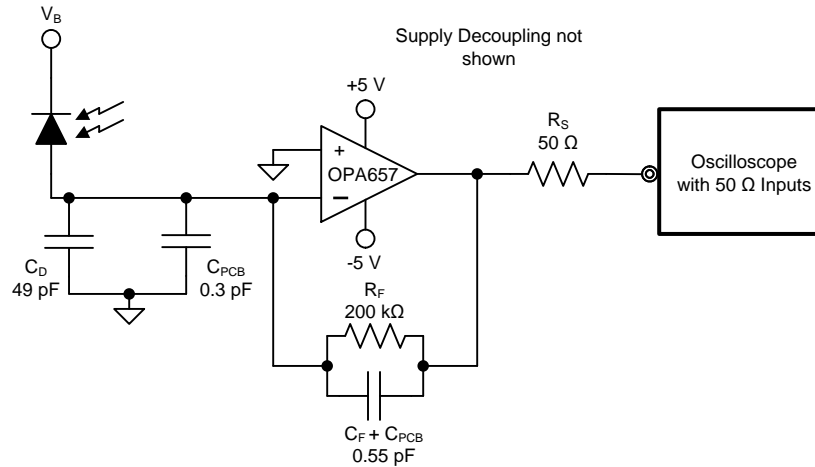

Figure 34. Wideband, High-Sensitivity, Transimpedance Amplifier Diagram
this term only begins to be a significant term versus the input offset voltage for source impedances greater than 750 k Ω . This would also be the feedback resistor value for transimpedance applications (see Figure 34) where the output DC error due to inverting input bias current is on the order of that contributed by the input offset voltage. In general, except for these extremely high-impedance values, the output DC errors due to the input bias current may be neglected.
As an example, compute the worst-case output DC error for the transimpedance circuit of Figure 34 at 25°C and then the shift over the 0°C to 70°C range given the following assumptions.
Designs that require high bandwidth from a large area detector with relatively high transimpedance gain benefit from the low input voltage noise of the OPA657. This input voltage noise is peaked up over frequency by the diode source capacitance, and can, in many cases, become the limiting factor to input sensitivity. The key elements to the design are the expected diode capacitance (C_D) with the reverse bias voltage (V_B) applied, the desired transimpedance gain, R_F , and the GBP for the OPA657 (1600 MHz). Figure 34 shows a transimpedance circuit with the parameters as described in Table 1. With these three variables set (and including the parasitic input capacitance for the OPA657 and the PCB added to C_D), the feedback capacitor value (C_F) may be set to control the frequency response. To achieve a maximally-flat second-order Butterworth frequency response, the feedback pole should be set to:
Adding the common-mode and differential mode input capacitance (0.7 + 4.5) pF and the trace PCB capacitance of approximately 0.3 pF to the 49-pF diode source capacitance of Figure 34, and targeting a 200-kΩ transimpedance gain using the 1600-MHz GBP for the OPA657 requires a feedback pole set to 3.5 MHz. This requires a total feedback capacitance of 0.2 pF. Such low capacitance values are difficult to achieve due to parasitics from the PCB and the surface mount components.
Equation 8 gives the approximate closed loop bandwidth of the system to be 4.8 MHz. Because the target bandwidth is only 1 MHz, the feedback capacitance can be increased to a more practical value while maintaining the bandwidth requirements of the design. A feedback capacitance of 0.550 pf was chosen. This includes the physical 0.4-pF feedback capacitor in addition to the 0.1-pF parasitic capacitance from the feedback resistor and around 50-fF capacitance from the PCB traces. Removing the ground and power planes from under the surface mount components helps to minimize this parasitic capacitance. The simulated closed loop bandwidth of Figure 34 was 1.7 MHz. The phase margin was close to 82°. This design should result in a system with negligible overshoot to a pulsed input.
3. **Careful selection and placement of external components preserve the high-frequency performance of the OPA657.** Resistors should be a very low reactance type. Surface-mount resistors work best and allow a tighter overall layout. Metal film and carbon composition axially leaded resistors can also provide good high-frequency performance. Again, keep the leads and PCB trace length as short as possible. Never use wirewound-type resistors in a high-frequency application. Because the output pin and inverting input pin are the most sensitive to parasitic capacitance, always position the feedback and series output resistor, if any, as close as possible to the output pin. Other network components, such as noninverting input termination resistors, should also be placed close to the package. Where double-side component mounting is allowed, place the feedback resistor directly under the package on the other side of the board between the output and inverting input pins. Even with a low parasitic capacitance shunting the external resistors, excessively high resistor values can create significant time constants that can degrade performance. Good axial metal film or surface-mount resistors have approximately 0.2 pF in shunt with the resistor. For resistor values greater than 1.5 k Ω , this parasitic capacitance can add a pole and/or zero below 500 MHz that can effect circuit operation. Keep resistor values as low as possible consistent with load driving considerations. It has been suggested here that a good starting point for design would be to keep $R_F \parallel R_G < 150 \Omega$ for voltage amplifier applications. Doing this automatically keeps the resistor noise terms low, and minimizes the effect of the parasitic capacitance. Transimpedance applications (see Figure 34) can use whatever feedback resistor is required by the application as long as the feedback-compensation capacitor is set considering all parasitic capacitance terms on the inverting node.